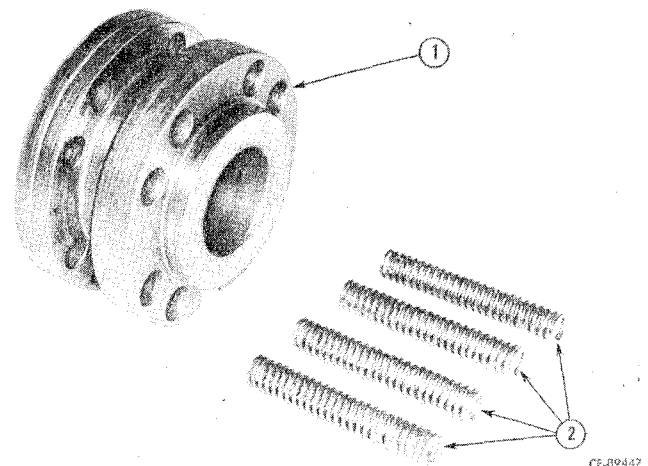
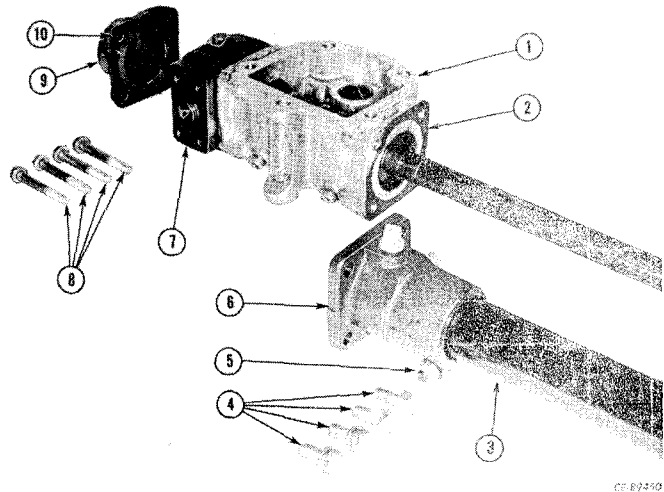
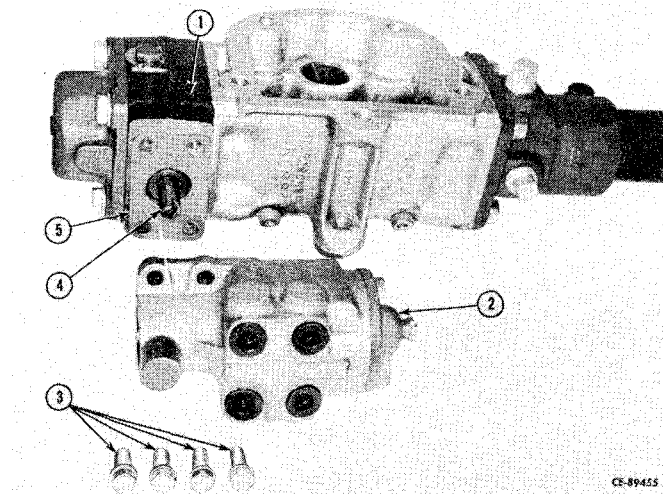

Figure 8-20
Figure 8-23
Figure 8-28
Install springs (2, Fig. 8-20) in actuator (1). Be sure to install springs in proper bore as noted during disassembly.
Install end cover assembly (9, Fig. 8-23) and new gasket (10). Secure with cap screws (8) and flat washers. Tighten cap screws to recommended torque (refer to "SPECIAL TORQUES" under "SERVICE INFORMATION").
Assemble actuator lever (4, Fig. 8-28) in actuator housing (1) being sure stud end of lever seats in groove of actuator (1, Fig. 8-20). Position slot in other end of lever so that pin in clevis of flexure rod (7, Fig. 8-23) will fit freely into it when mounting the valve (2, Fig. 8-28).